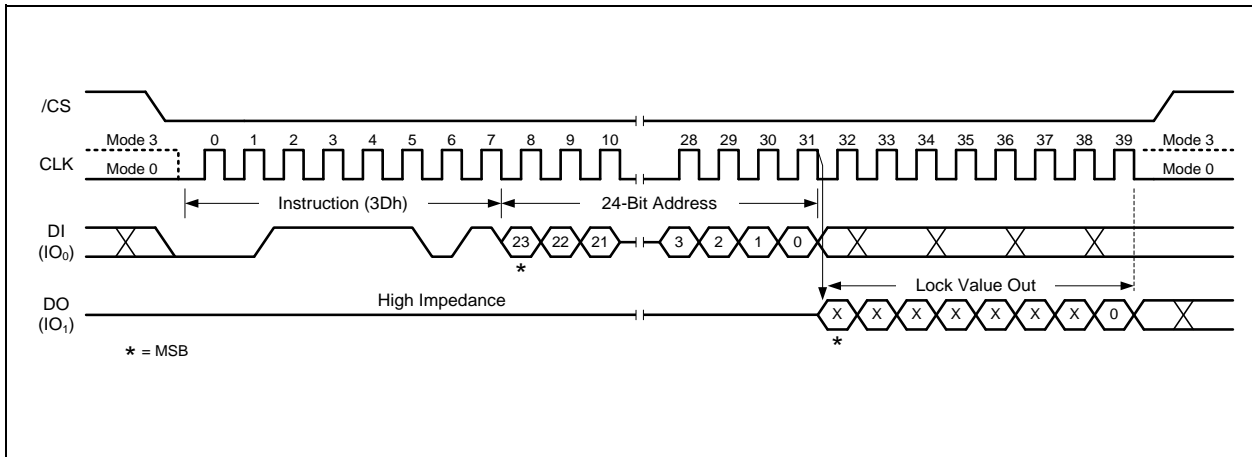

Figure 37. Read Block Lock Instruction
To read out the lock bit value of a specific block or sector as illustrated in Figure 37, a Read Block/Sector Lock command must be issued by driving /CS low, shifting the instruction code “3Dh” into the Data Input (DI) pin on the rising edge of CLK, followed by a 24-bit address. The Block/Sector Lock bit value will be shifted out on the DO pin at the falling edge of CLK with most significant bit (MSB) first as shown in Figure 55. If the least significant bit (LSB) is 1, the corresponding block/sector is locked; if LSB=0, the corresponding block/sector is unlocked, Erase/Program operation can be performed.